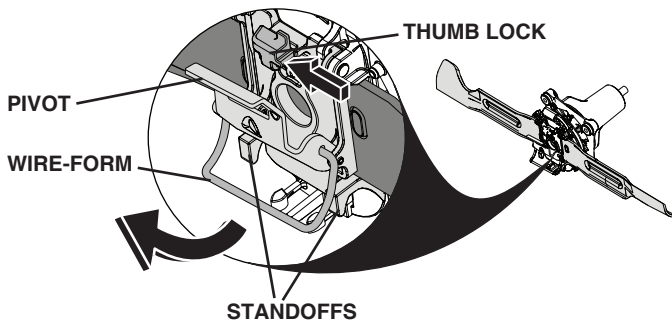

Fig. 30
- Slide thumb lock and release pivot to allow wire-form to swing free from standoffs. (See Fig. 30.)